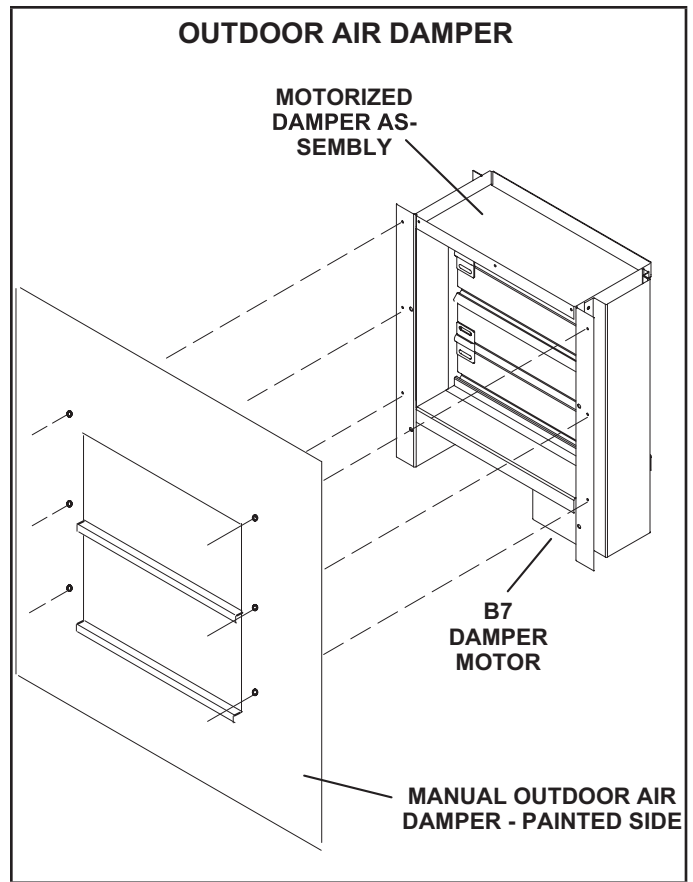

FIGURE 26
T1DAMP11A-1 is available for KGA 2, 2.5, 3, 4 and 5 ton unit and T1DAMP11N-1 is available for the KGA/KGB 6 and 7-1/2 ton units. Both sets include the outdoor air hood. A motorized kit (T1DAMP21AN1) can be ordered separately for all KGB unit sizes. The dampers may be manually or motor (M) operated to allow up to 25 percent outside air into the system at all times (see figure 26). Washable filter supplied with the outdoor air dampers can be cleaned with water and a mild detergent. It should be sprayed with Filter Handicoater when dry prior to re-installation. Filter Handicoater is R.P. Products coating no. 418 and is available as Part No. P-8-5069.